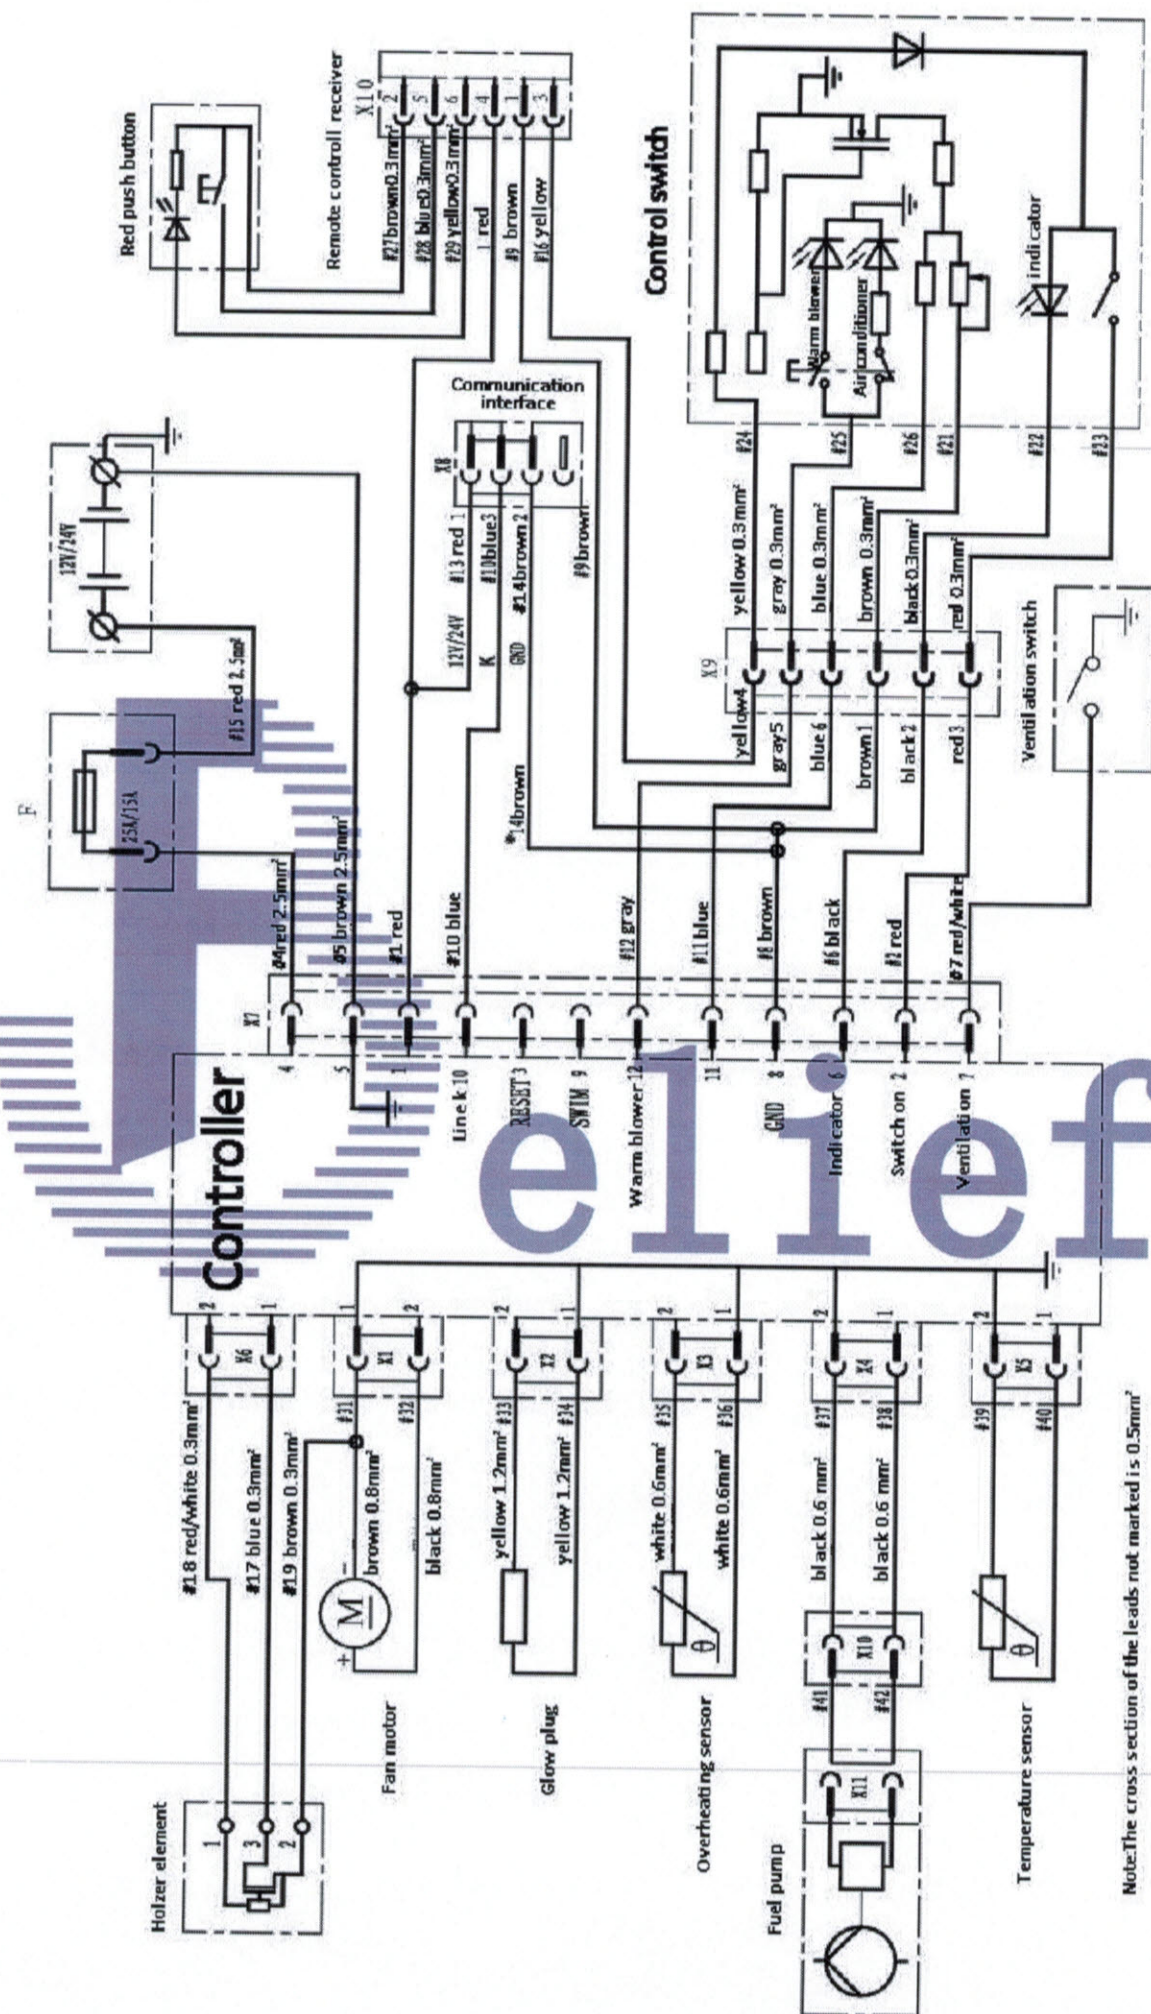

Fig. 17
4.5.1 The wiring diagram for the heater is shown in Fig. 17. The wires of the main heater for connection to outside circuits have been made into wire bundles. They can be laid according to the positions of various components and shall be fixed in some proper locations. The distance between two fixing points shall not exceed 30cm. Attention: Any exposed wire bundle out of the vehicle body or out of the wiring groove must be protected by